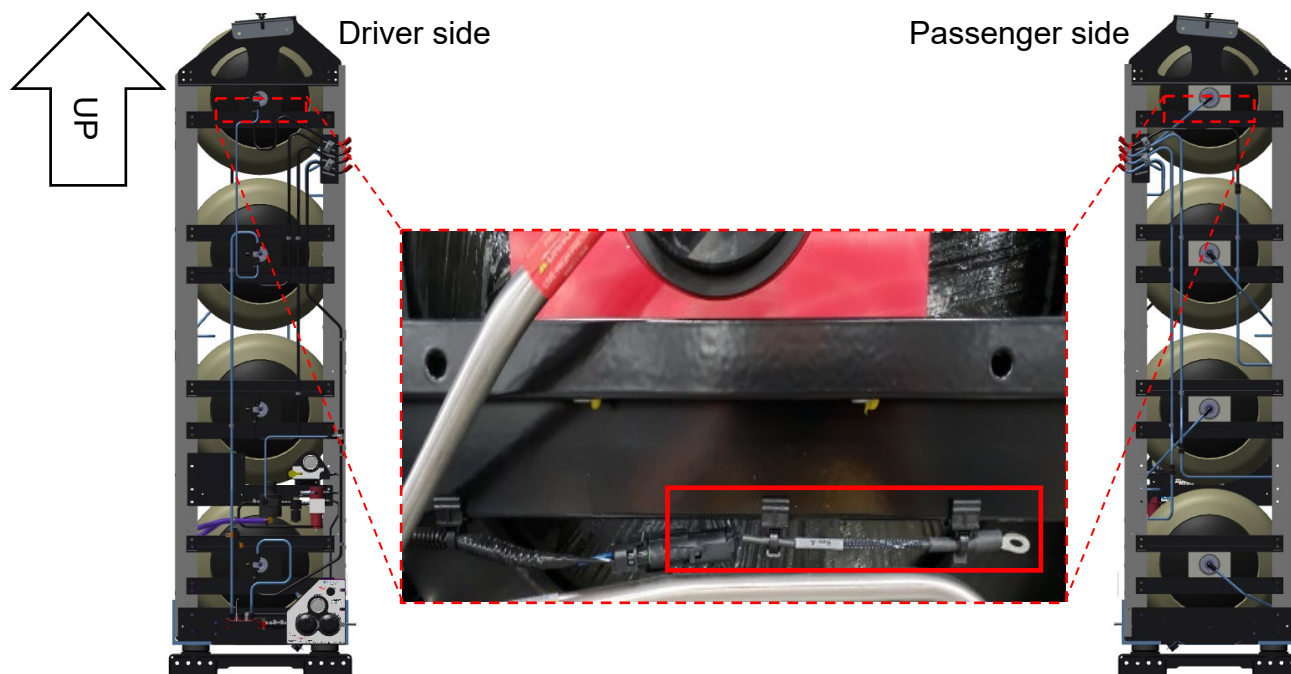

*Figure 2. Thermistor locations (rectangle) in a behind the cab (BTC) system.*
4. Use a non-contact infrared thermometer to measure surface temperature at the first thermistor selected for testing. Record surface temperature at the thermistor site at the time of the reading. *Refer to Figures 2, 3, 4, 5a, and 5b for thermistor locations.*